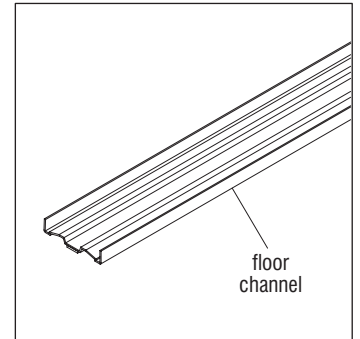

Figure 3
3. Floor channel installation (Figure 3).